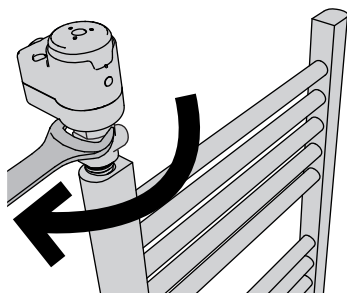

Fig. 10
7. Then, using a 27 mm spanner, turn the T-piece with screwed heating element until the last nipple thread turn and if necessary continue in order to have the regulating box facing forward (Fig. 10).